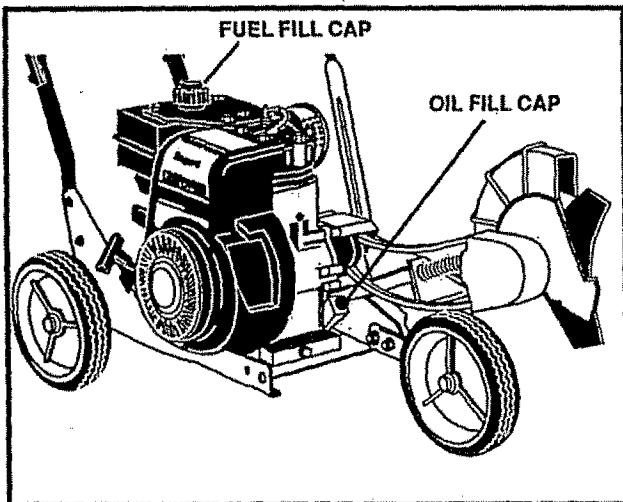

FIG. 7A
- Remove the oil fill cap (Fig. 7A)
Fill the fuel tank (See Fig. 7A) with clean, fresh, unleaded grade automotive gasoline. Be sure that the container you pour the gasoline from is clean and free from dust or other foreign particles. Never use gasoline that may be stale from long periods of storage in the container.
- Remove the oil fill cap (see Fig. 7A).